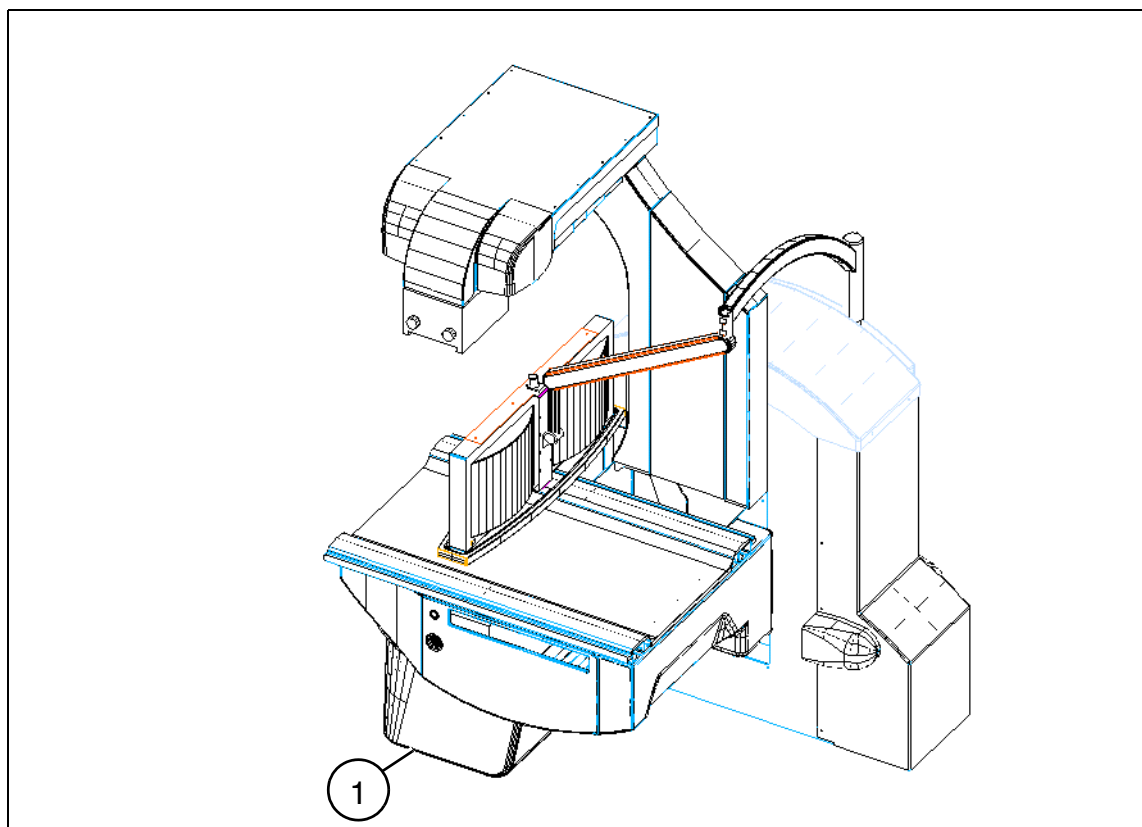

Fig. 4 UROSKOP Access
- Manually operate the safety devices (1/ Fig. 4).